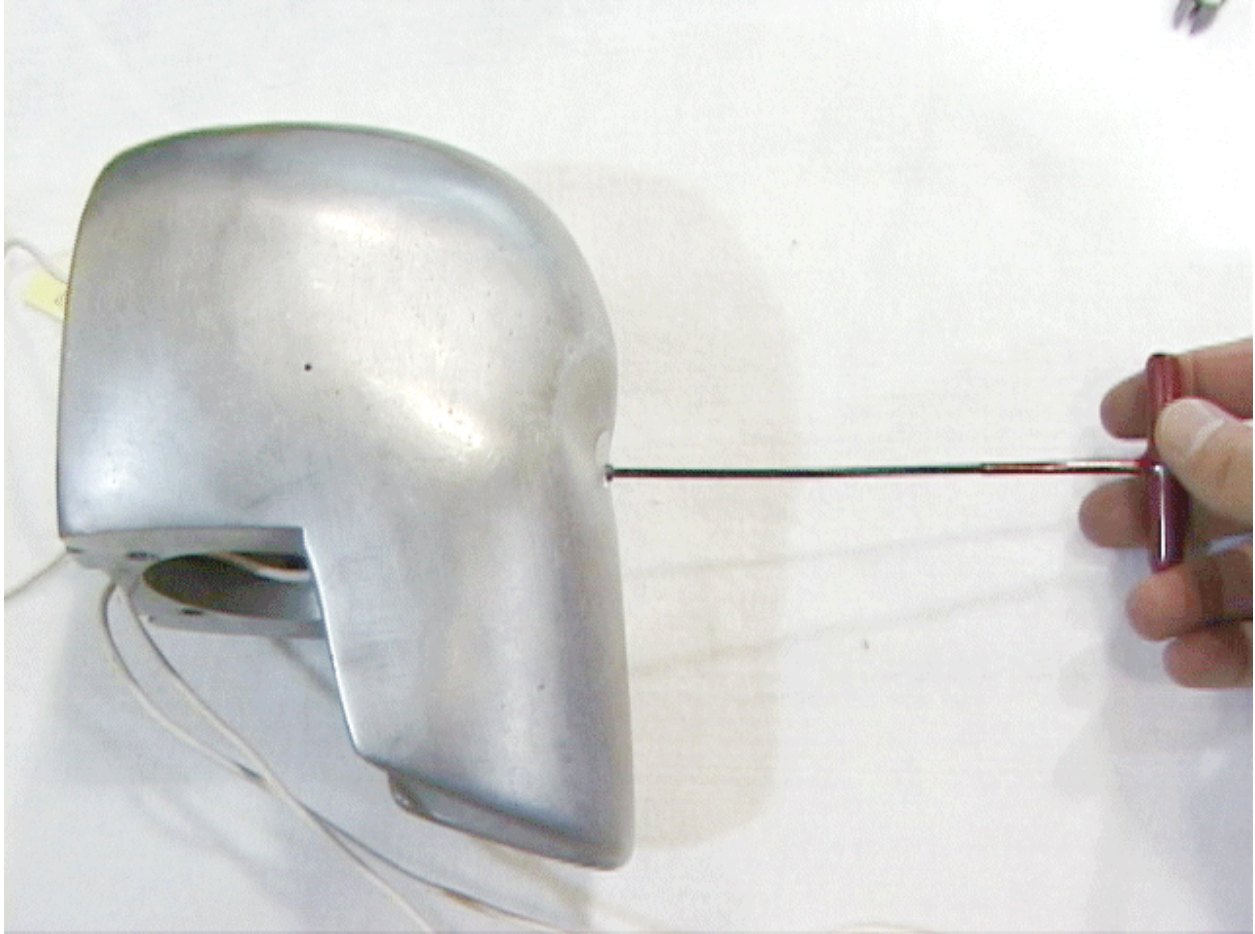

Figure 3.4 -- Attach outboard mounts to permanently fastened mounting pad from the outside
- c. Figure 3.4 shows that the #4-40 x 3/8" SHCS is accessed from outside the head.